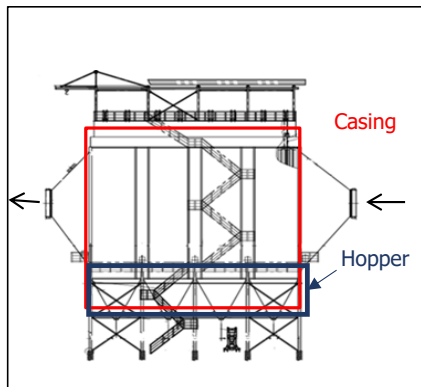

Fig.1 Overall exterior casing
1. The casing structure was in normal condition. We haven't found any signs of corrosion. (Fig.1)